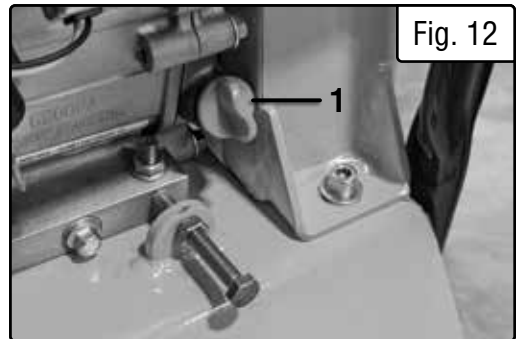

Fig. 12
2. Remove the oil filler cap or dipstick (Fig. 12 - 1) from the engine.